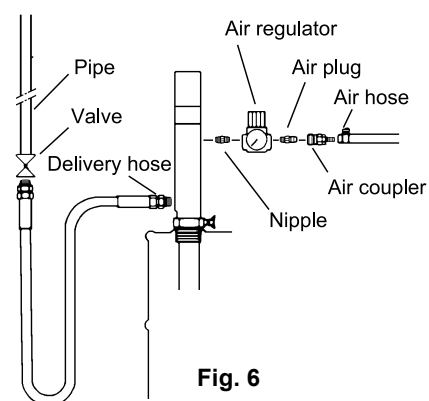

Fig. 6
- The material hose used should have pressure resistance of 3 MPa or more and be oil resistant. When an adequate hose is not available, place an order with our dealer for a special purpose hose by the following production number. (Fig. 6)
<p>[Precaution for installation]</p> <p>- Do not directly connect the piping to the pump. Direct connection damages the piping by vibrations when running the pump, causes noises, and in case of the drum pump, makes it impossible to replace the drum can and disables maintenance of the pump. (Fig. 6)</p>